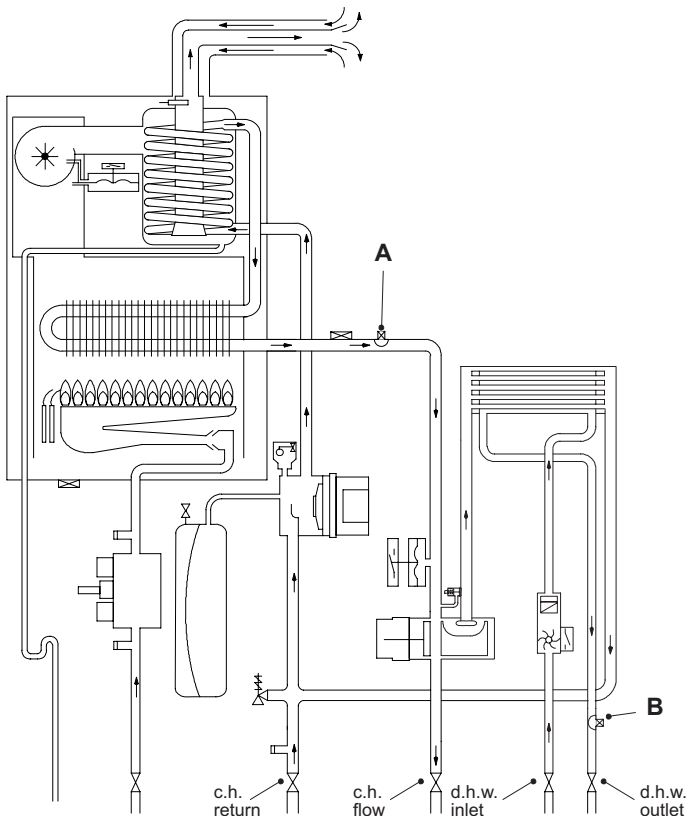
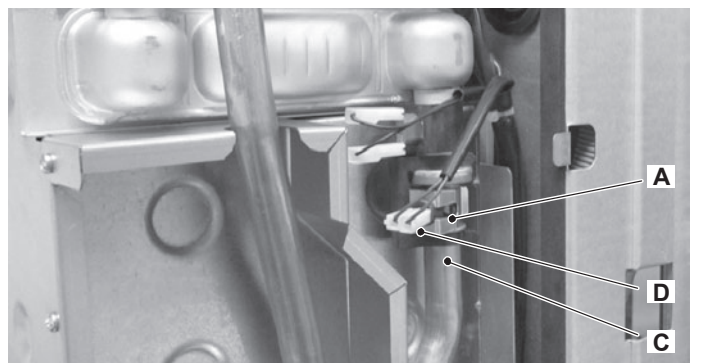
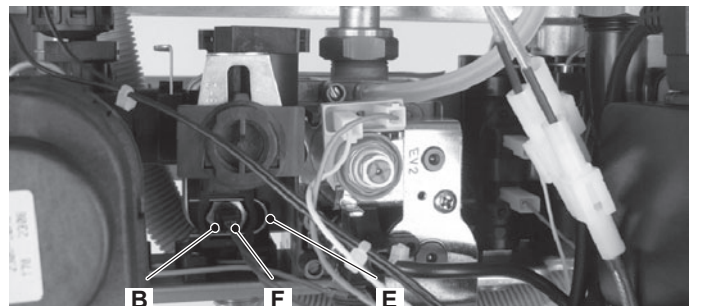

Figure 15.2
Figure 15.3
Figure 15.4
On the boiler there are two Temperature probes. One on the output of the primary heat exchanger (c.h. temperature probe) A in Figure 15.2 and Figure 15.3; one on the output of the d.h.w. heat exchanger (d.h.w. temperature probe) B in Figure 15.2 and Figure 15.4.
- 2 Remove the electric connector D and remove the c.h. Temperature probe A (Figure 15.3).
- 3 Remove the fixing spring E (Figure 15.4).
- 4 Remove the electric connector F and unscrew the d.h.w. Temperature probe B (Figure 15.4).